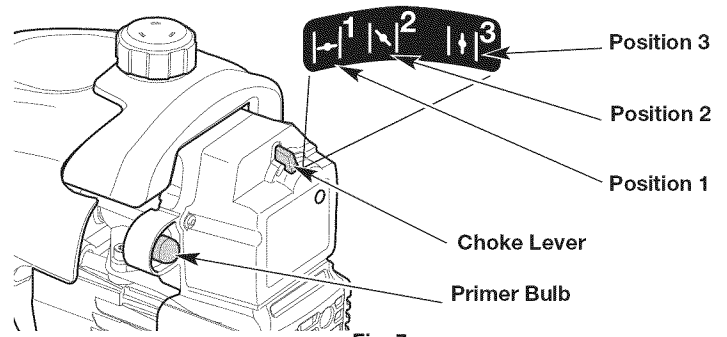

Fig. 7
3. Slowly press and release the primer bulb **10 times** (Fig. 7). If fuel cannot be seen in the primer bulb, press and release the primer bulb until fuel is visible.
4. Move the choke lever to **Position 1** (Fig. 7).
7. Continue to squeeze the throttle control. Move the choke lever to **Position 2** (Fig. 7).
10. Continue to squeeze the throttle control. Move the choke lever to **Position 3** (Fig. 7) and continue warming the engine for an additional 60 seconds. The unit may be used during this time.
**IF...** the engine hesitates, return the choke lever to **Position 2** (Fig. 7) and continue the warm-up.